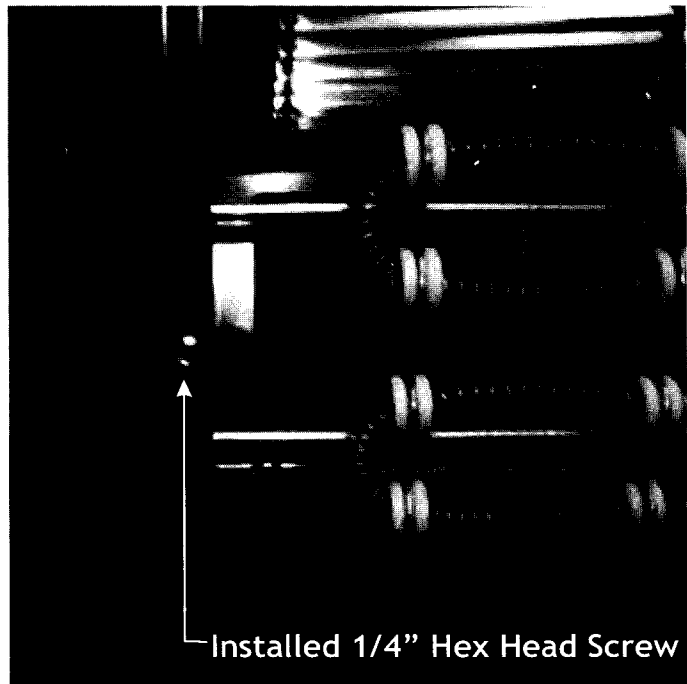

Figure 13
13. Install 1/4" hex head screw (supplied with kit) into the bracket. Figure 13.